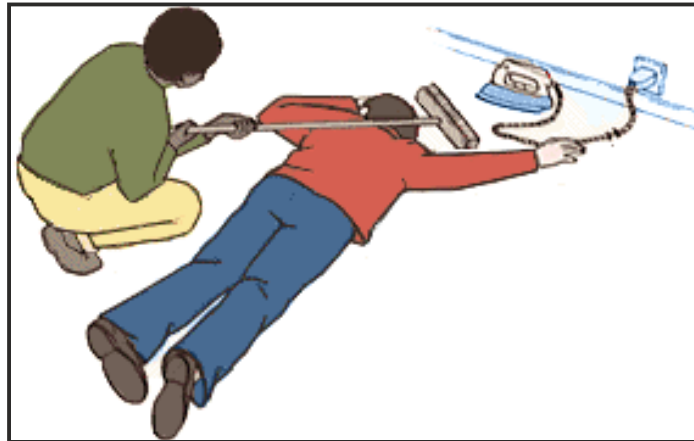

Fig 2.3.4 (j) Electric Shock
-  Figure 2.3.4 (j) shows a man moving the power source away from the affected person using a wooden stick.